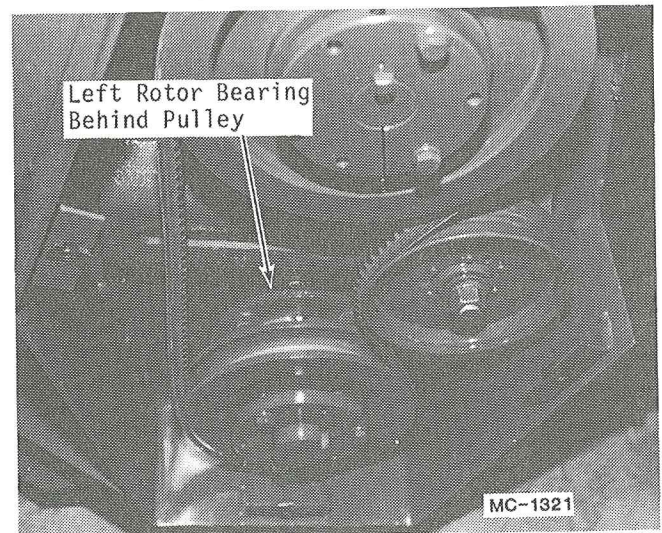

Figure 17
5. Remove the four capscrews and lock-washers from the flangettes and remove both flangettes and bearing from the rotor shaft. (See Figure 17.)